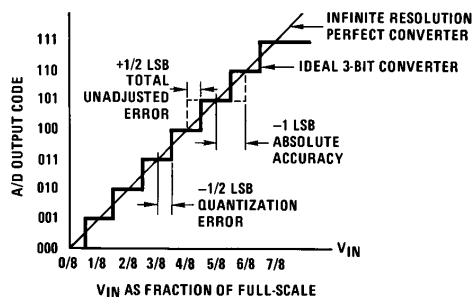

FIGURE 3. 3-Bit A/D Absolute Accuracy Curve
**Note 5:** Total unadjusted error includes offset, full-scale, linearity, and multiplexer errors. See Figure 3. None of these A/Ds requires a zero or full-scale adjust. However, if an all zero code is desired for an analog input other than 0.0V, or if a narrow full-scale span exists (for example: 0.5V to 4.5V full-scale) the reference voltages can be adjusted to achieve this. See Figure 13.